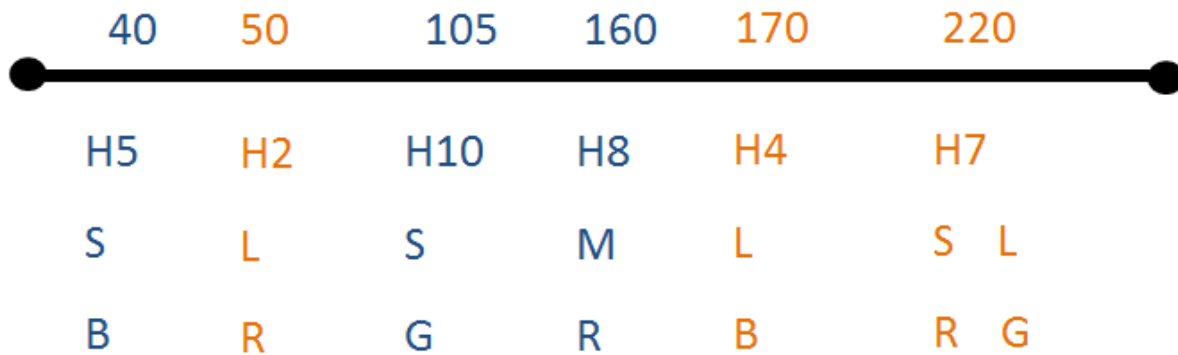

Figure 2: Order Timeline
Q-7 Given an Order Timeline as shown in Figure 2 how you will deliver each and every Pizza such that you score the maximum points as per the Formula in “Scoring System” in the rulebook. (20)